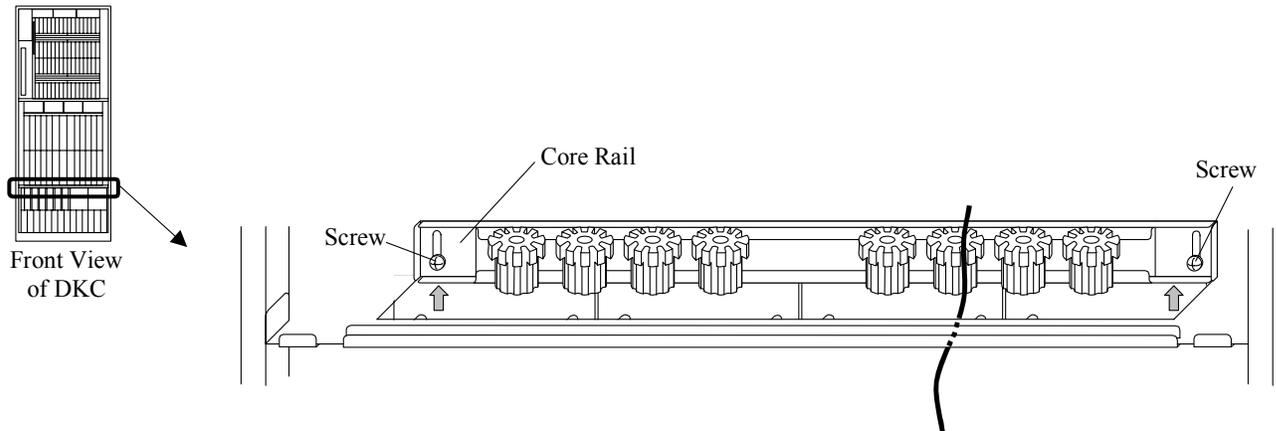

Fig. T15-1 Removal of Core Rail
- a. When the core rail is moved by step 1, loosen the screws and lower the core rails. Fasten the screws. (Refer to Fig. T15-1.)